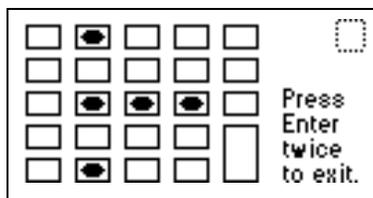

Figure 5-11 Keypad Diagnostic
1. From the Lamp, display & keypad choice list, press **2, Test keypad**, to run the keypad test. A bitmap representation of the keypad is displayed (Figure 5-11).